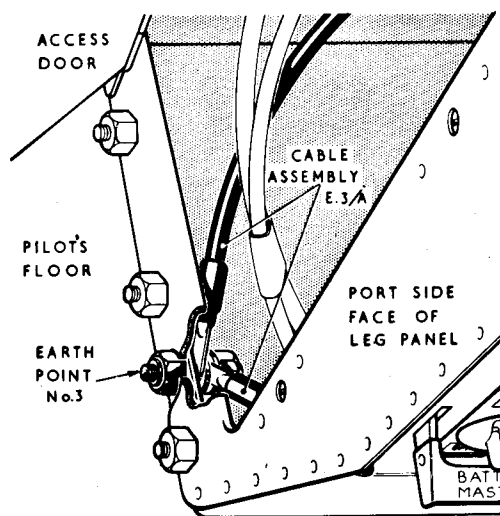

Fig. 3 Earth point 3
- (2) Disconnect the Bowden cable from the rudder bar release lever at the top of the leg panel and stow it away from the panel.
- (3) Disconnect cable assembly A11 from cable assembly A12 at the plug and socket break, located on the port side of the instrument panel mounting structure. Remove any straps and clips securing the A11 cable and coil it back to the leg panel. Fit an approved cap and cover to the plug and socket.
- (4) Disconnect cable assembly E3/A from earth point 3, obtaining access via the hinged door in the port side of the leg panel (fig.3).
- (5) Disconnect all the plugs and sockets on the cable assemblies at the leg panel. Seal off the plugs and sockets with approved caps and covers and stow the cable assemblies away from the panel.
- (6) Release the leg panel from its mountings by removing the nine bolts from around the bottom forward, and side faces of the panel. Remove the leg panel from the cabin, complete with cable assemblies F31 and E3/A.